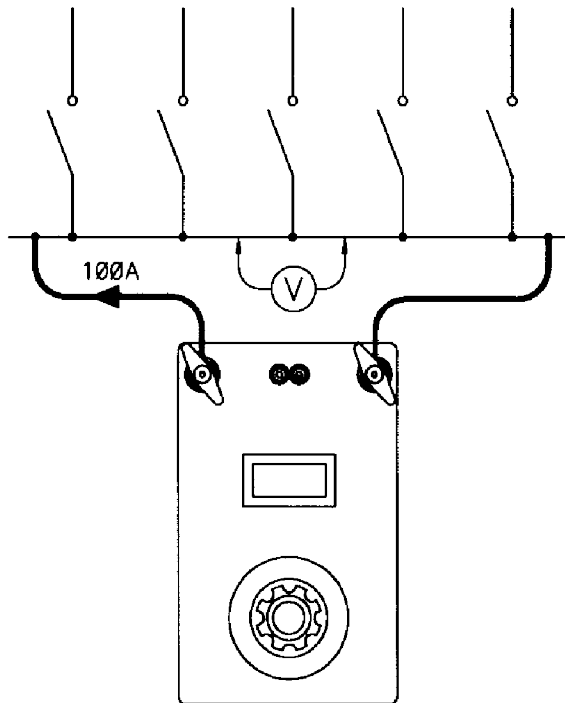

Fig. 3
- 4] Connect the micro-ohmmeter's current cables to the test object, see fig. 3. Do not connect the sensing cables. Measurement will be done manually using an external portable voltmeter.